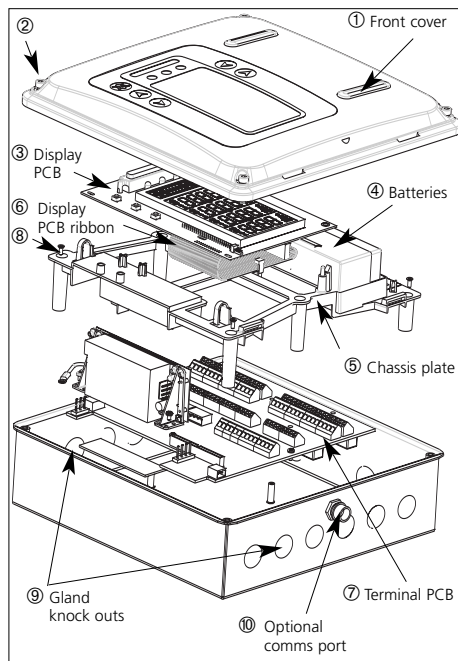
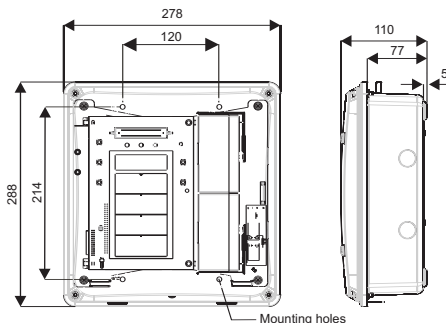

Figure 2.1 Exploded view of Gasmaster
Figure 2.3 Dimensional view of Gasmaster with mounting holes shown
This section describes how to get started with a *Gasmaster 4* or *Gasmaster 1* system that has been pre-configured for the detectors supplied. Figures 2.1, 2.2 and 2.5 show the internal structure of Gasmaster.
Figure 2.1 shows the internal arrangement of a Gasmaster system. The front cover ① is removed by unscrewing the four screws ② and carefully disconnecting the two-pole sounder connector from the display PCB ③. The front cover should then be placed in a safe location. With the front cover removed the chassis plate ⑤ is accessible which supports the display PCB ③ and batteries ④. Below the chassis plate is the terminal PCB ⑦ which contains all the input and output terminals and power terminals. The display PCB ③ is connected to the terminal PCB ⑦ via a 50-way ribbon connector, and is hinged on the left side so that it can be moved to provide access to the detector input terminals. Most terminals are accessible once the display PCB is moved and the batteries ④ are removed, however if necessary the chassis plate can be removed for easier terminal access by carefully disconnecting the display PCB ribbon connector from the terminal PCB and unscrewing the four fixings ⑧. Care should be taken when re-
Figure 2.3 provides a dimensional view of Gasmaster. To access the mounting points, first remove the front cover by unscrewing the fixings labelled ② in figure 2.1. Carefully remove the